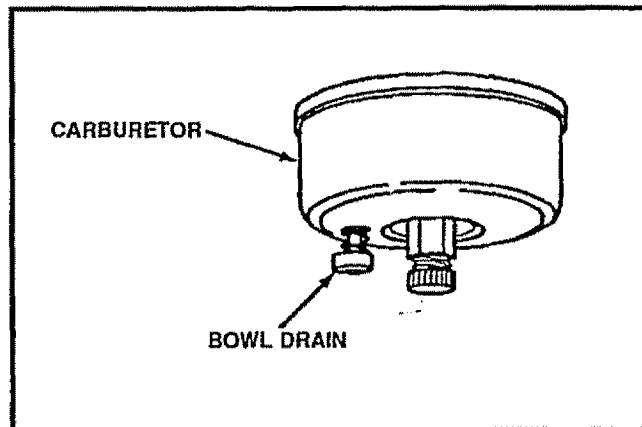

FIG. 39
- Drain the carburetor by pressing upward on the bowl drain (See Fig. 39), located below the carburetor cover.
- Remove the spark plug and squirt one (1) ounce of engine oil into the cylinder. Pull the recoil starter rope slowly, allowing the piston to coat the internal engine parts. Install an old spark plug. This prevents fouling a new plug with the preservative used to lubricate the internal parts of the engine. Close the choke and plug the muffler opening.